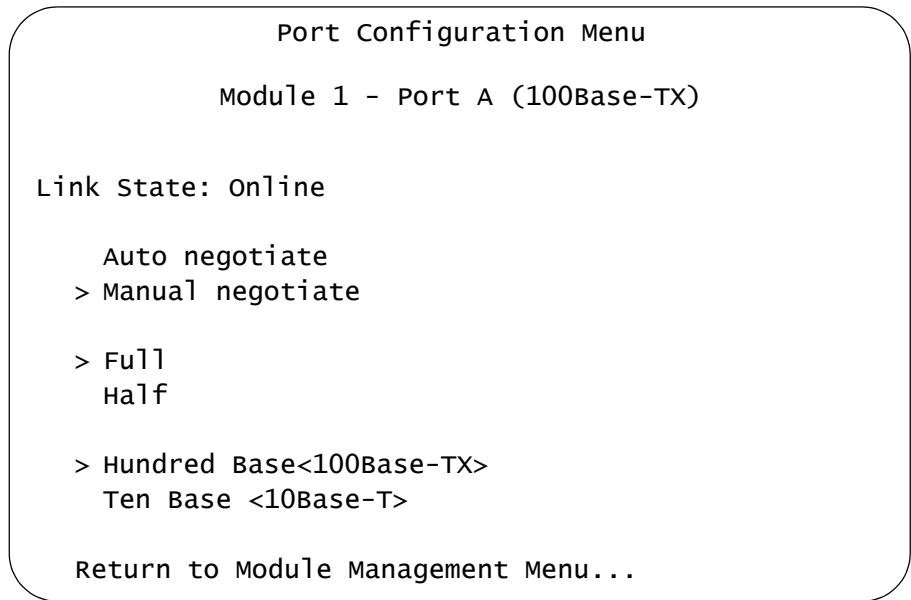

Figure 36. Port Configuration Menu for the 10/100Base-TX Port on the Management Card
4. Configure the settings of the port as needed. To activate Auto-Negotiation, select **Auto negotiate**. To set the speed and duplex mode manually, select **Manual negotiate** to display the additional parameters shown in Figure 36.